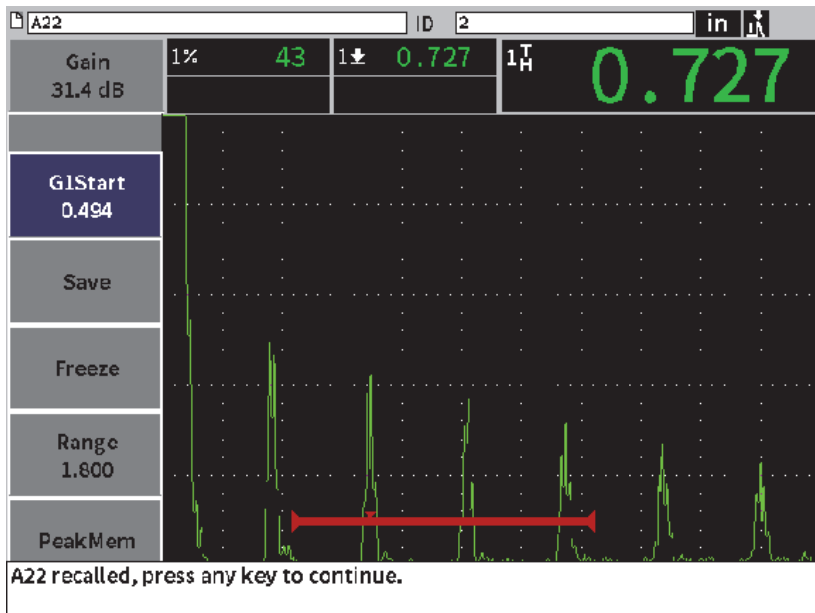

Figure 9-10 Recalled file data
2. Press the Enter key to bring the saved data to the live A-scan display (see Figure 9-10 on page 134).
The ID being viewed is displayed in the file identifier bar. The notification "<filename> recalled, press any key to continue" is displayed in the message bar (see Figure 9-10 on page 134).